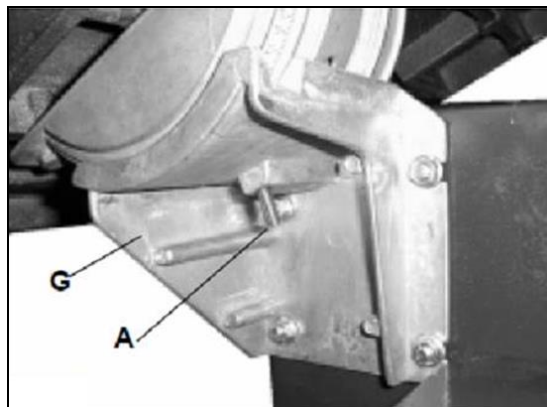

Fig 4
Turn the table over and remove the winged nut (C) from the trunion coach bolt (A) making sure the end of the bolt projects down through the casting (Fig 4)